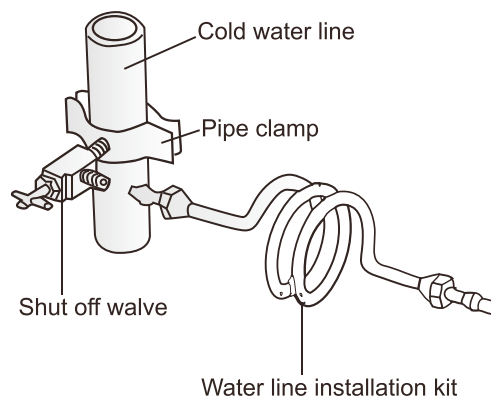

Figure 6
1. First, shut off the main water supply line. See Figure 6.